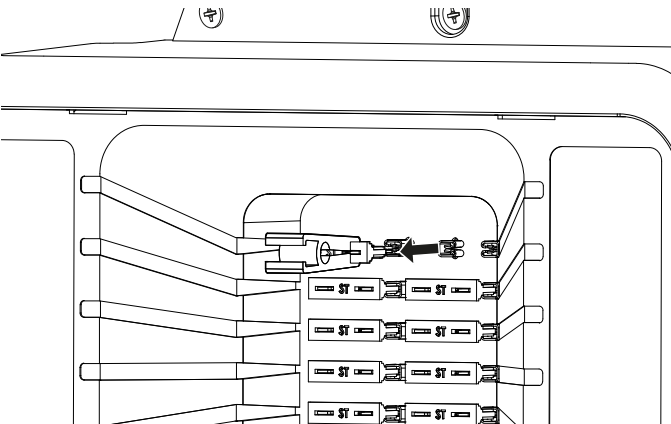

Fig. 4
- ▶ Use the fuse tongs to remove the relevant fuse (Fig. 4).